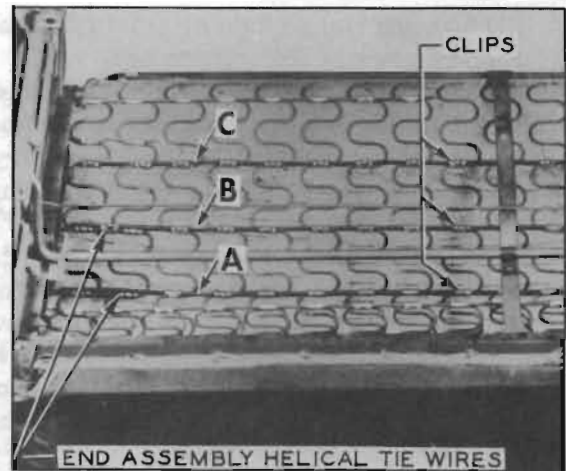

Figure 13-50—Installation of Tie Wires in Front Seat Cushion
2. Referring to figure 13-50, position and clip tie wires "A" and "B" to the zig-zag spring units so that they attach to the same line of loops to which "end assembly helical tie wires" are clipped. Position and clip helical tie wire "C" to the zig-zag springs as shown.